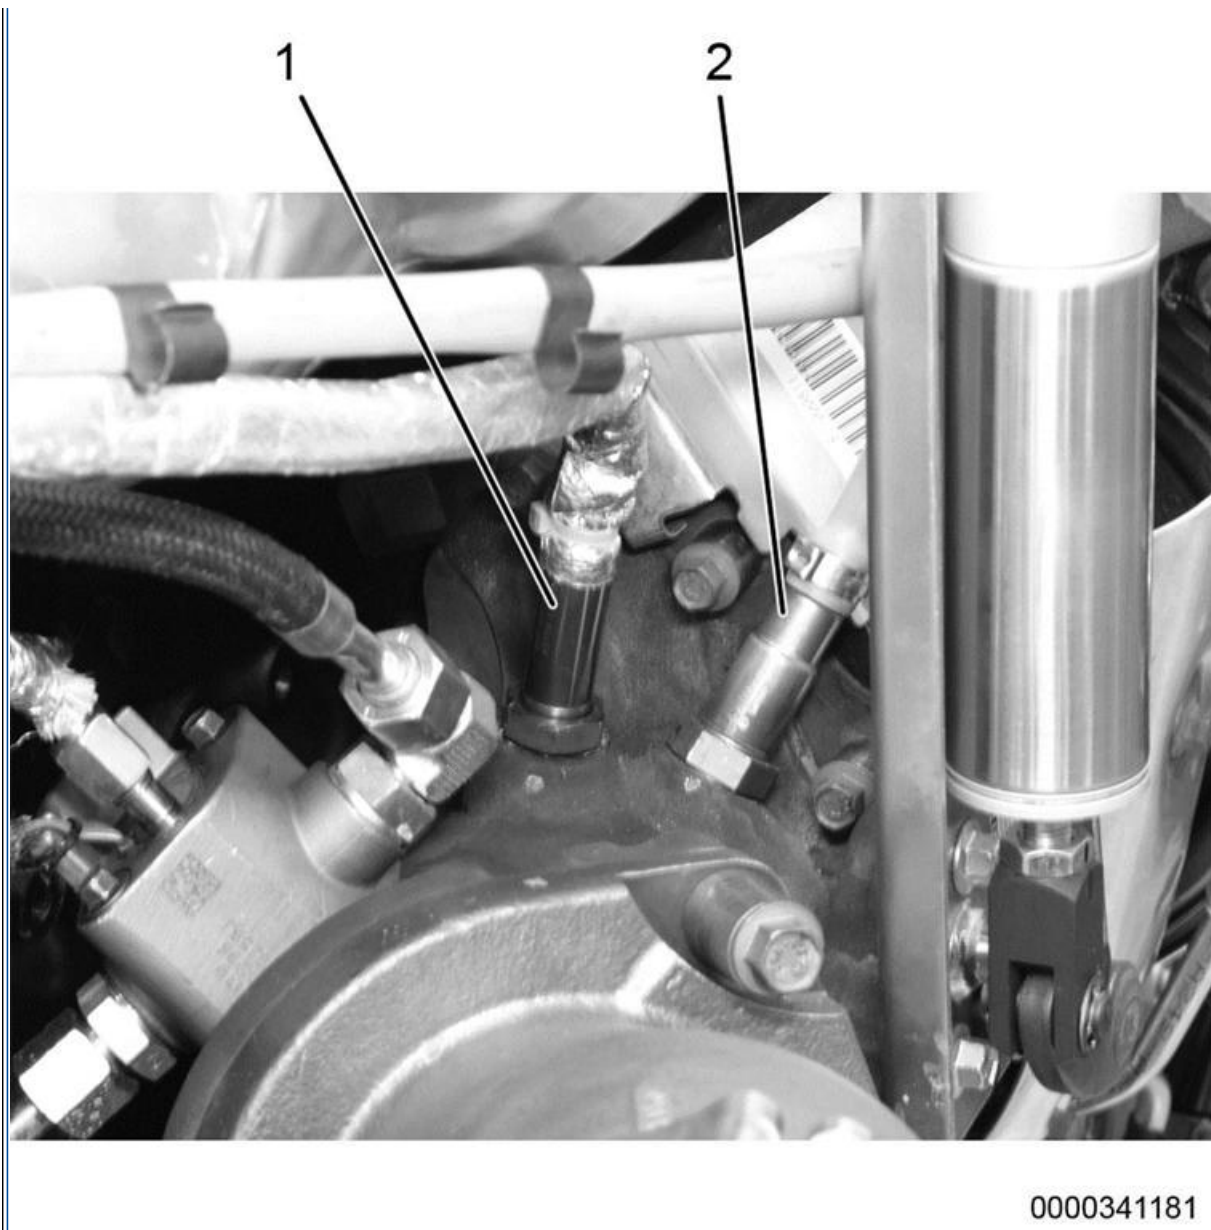

Figure 16: NOx and O2 sensors
45. Remove O2 and NOx sensor plugs and reinstall O2 and NOx sensors (Figure 16, items 1 and 2). Refer to MaxxForce® 11 and 13 Engine Service Manual \(EPA 10\), 0000001682.